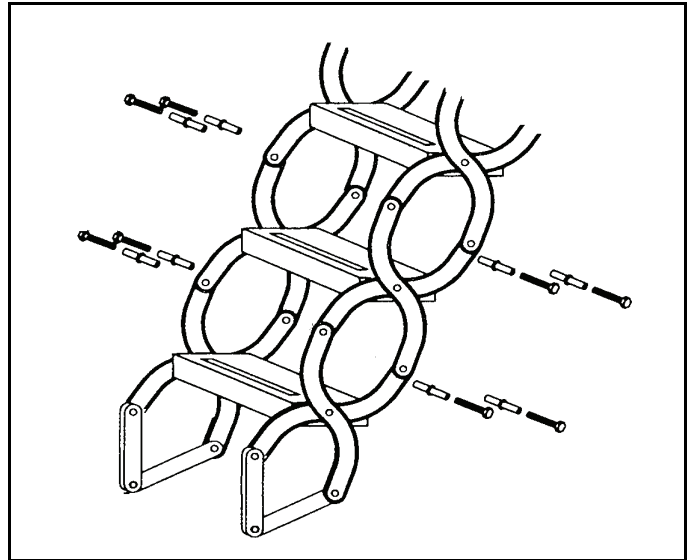

Figure 10
2. Add one or both treads as required by reinserting sleeves, washers and bolts. Figure 10. (Additional hardware is provided with extra treads).